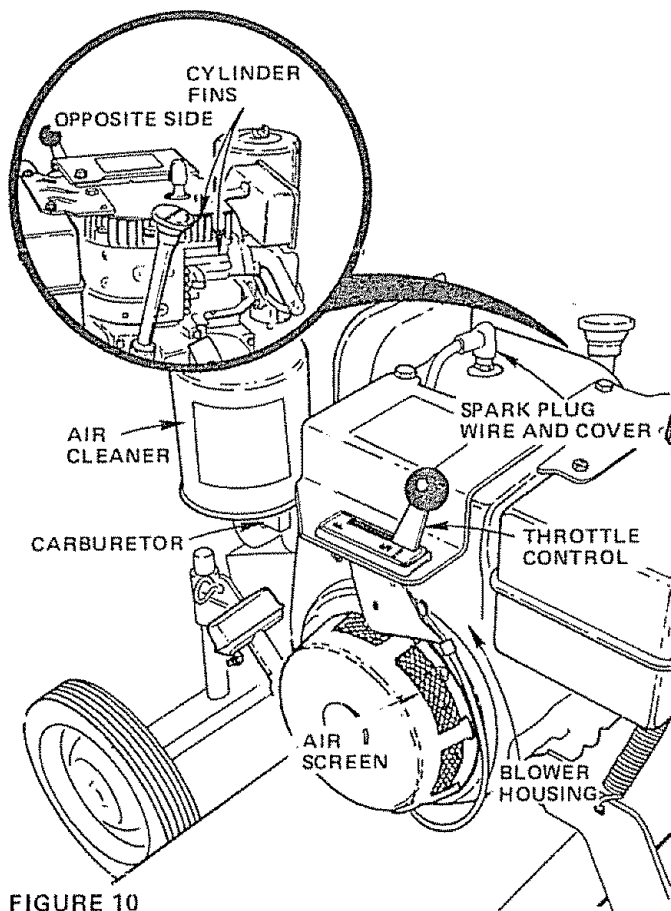

FIGURE 10
Keep engine clean of foreign matter at all times. Be sure Cylinder Fins (Fig. 10 - Inset) and Air Screen (Fig. 10) are kept clean to permit proper ventilation. Remember, this is an air cooled engine and free air flow is important for proper engine performance and long life.
5. Clean dust, dirt and oil from Cylinder Fins, Blower Housing, Air Screen and entire Tiller (Fig. 10).